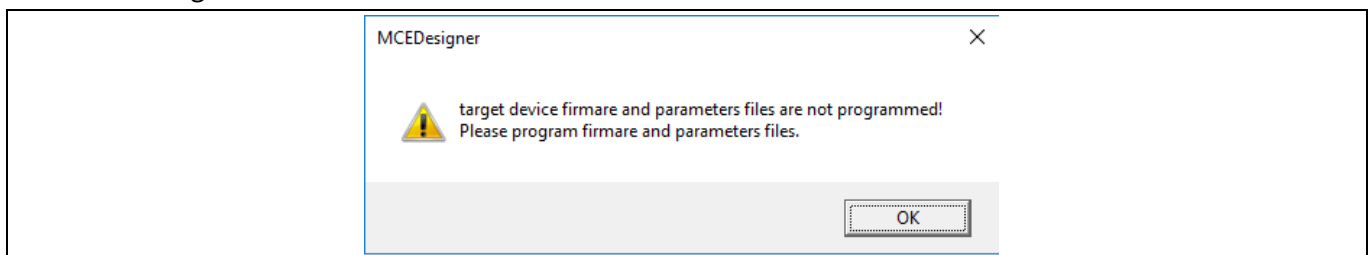

Figure 5 MCEDesigner warning message
4. (In the case of a blank IC) If the firmware has been erased from the IMC101T, the following warning message will pop up “Target device firmware and parameters file are not programmed! Please program firmware and parameters file” as Figure 5. Then you can program as described in the step 5. If it is not the blank IC, no such message will be indicated.